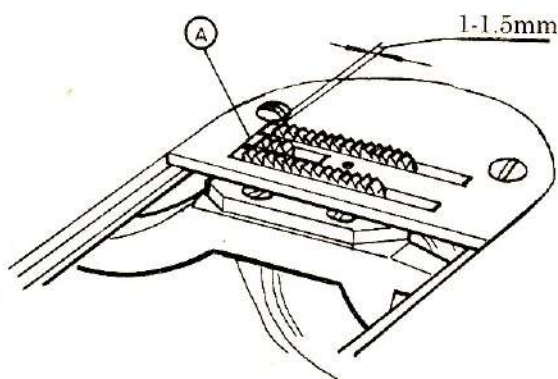

Fig.28
① 當送料量最大，送料牙(A)前端靠近針板槽前側時，送料牙前端與針板槽前側的間距在1~1.5毫米範圍內，這是標準的送料牙的安裝位置。
② 調節送料牙位置時，先讓送料牙運動至針板槽的最前端位置停止，然後旋松送料牙架座緊固螺釘，移動牙架以調整送料牙前端與針板槽前側之間的間隙，達到要求後，再旋緊緊固螺釘。
(2) The fitting position of the feed dog and its adjustment (fig 28)
① When the front side of the feed dog which is in its max. feeding movement approaches the front edge of the throat plate slot, the clearance between them lies in the range of 1—1.5 mm In such a case the standard fitting position of the feed dog is reached.
② To adjust the position of the feed dog, move the feed dog until it is in the closest